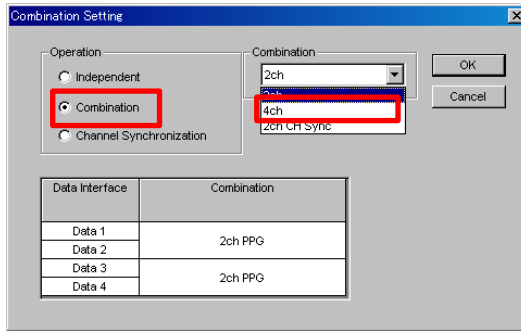

Fig.8 Combination setting
- 1) Combination Setting is used but unlike the description in section 2.2, 4ch Combination is set instead (Fig.8)